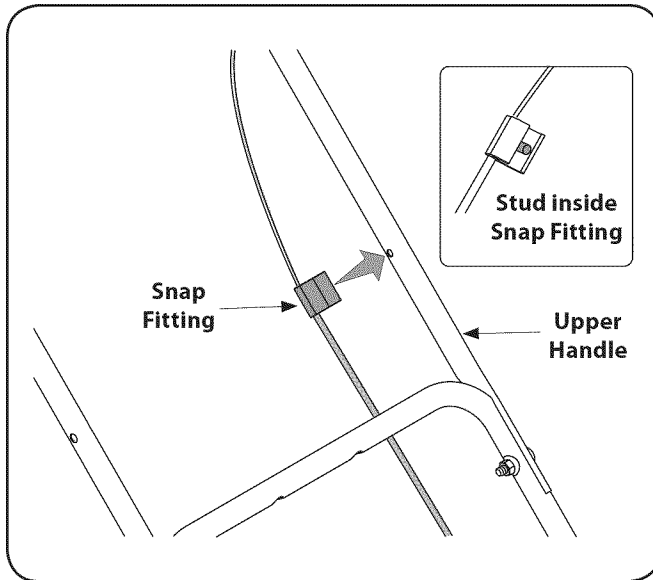

Figure 3-7
1. Press the stud found inside the snap fitting into the hole found on the left side of the upper handle, as shown in Figure 3-7.